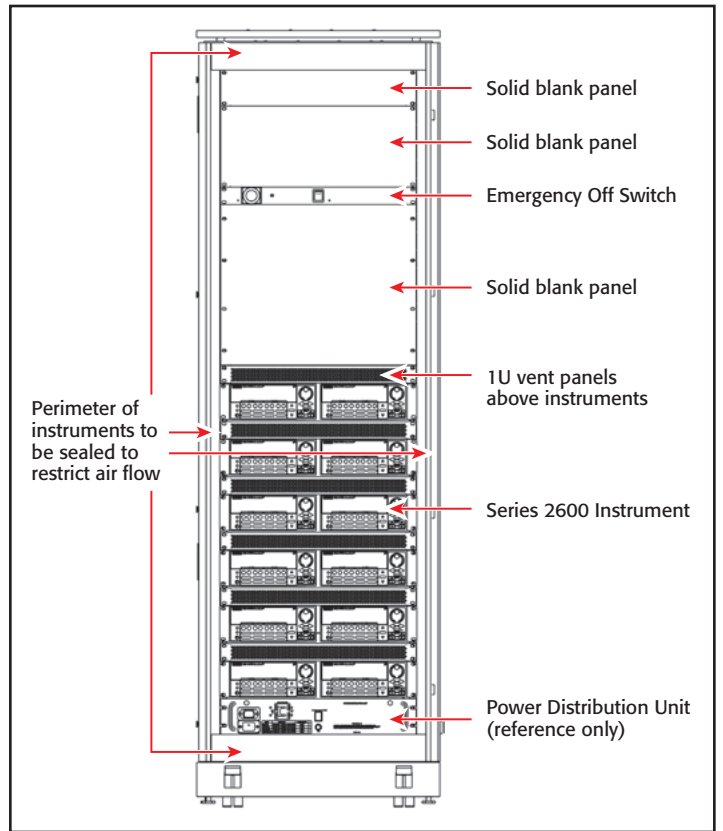

Figure 3
- Exceeding the power output on each channel (see power equation and table in **Figure 3**). Refer to the Series 2600/2600A/2600B System SourceMeter Reference Manual for output derating due to ambient temperature.